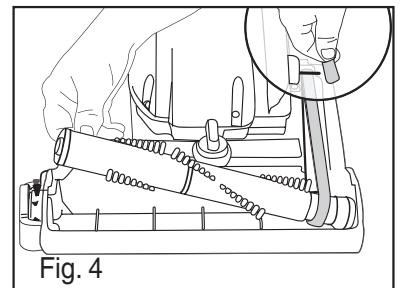

Fig. 4
4) Remove brush roll and belt. Thread new belt around motor shaft and brush roll (Fig. 4).